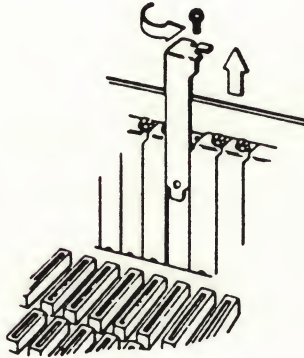

Figure 3-3 Removing a Slot Cover
4. Locate a vacant expansion slot and remove the slot cover as shown in Figure 3-3. Save the screw that you remove.